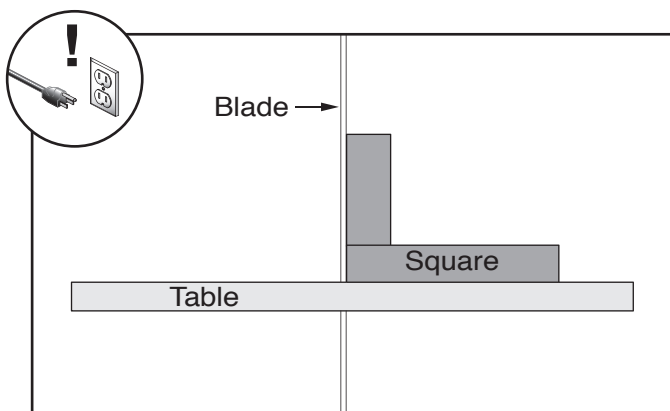

Figure 41. Aligning blade mounts.
3. Place machinist's square flat on table with one edge against side of blade (see **Figure 41**).